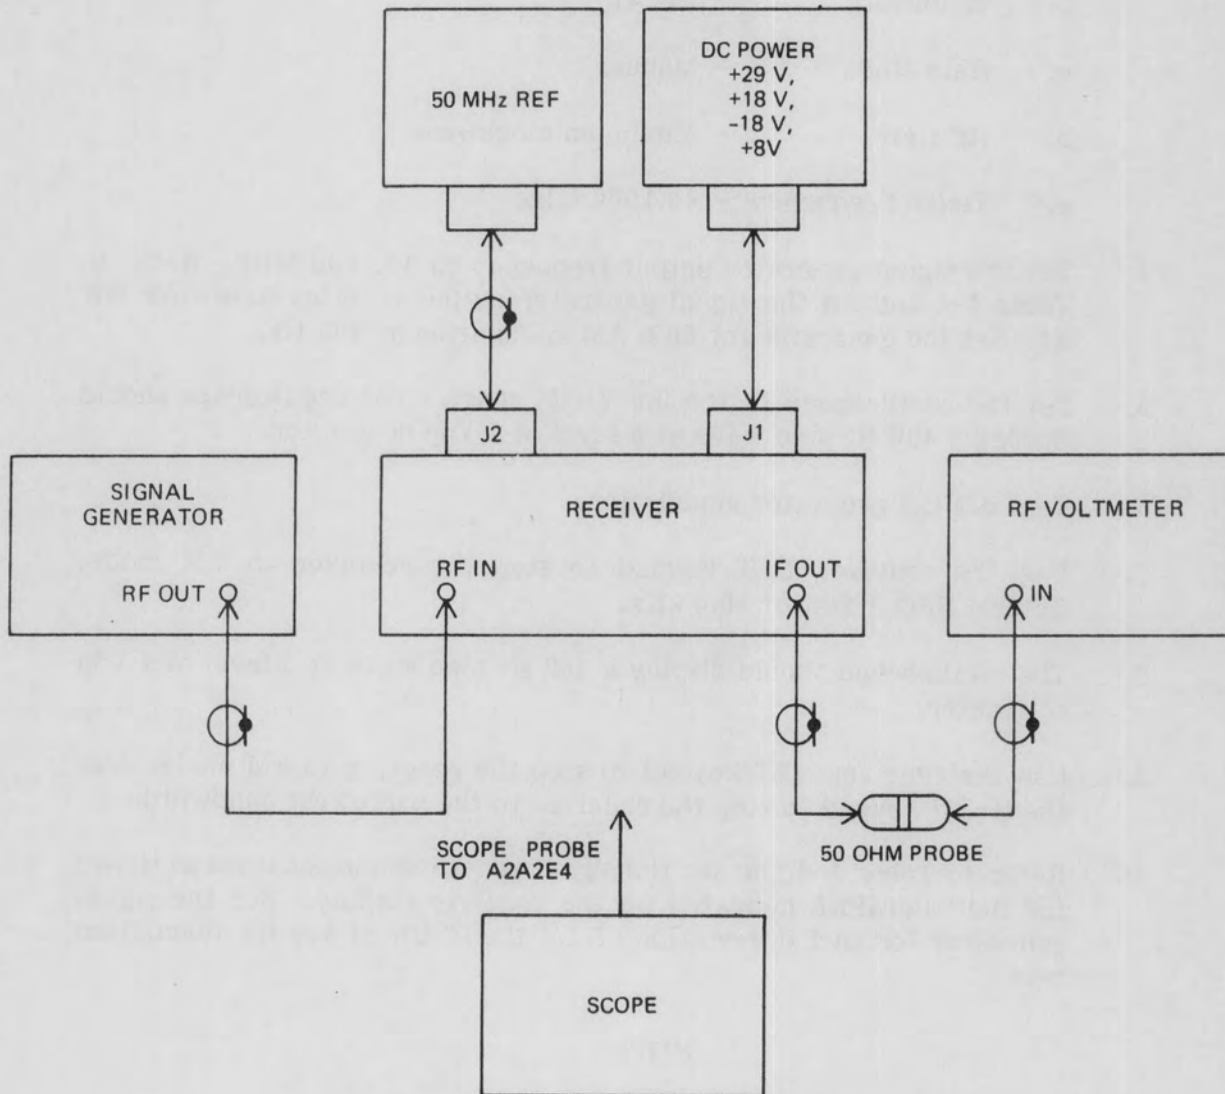

Figure 4-1. IF Gain Test Equipment Setup
1. Connect the receiver as shown in **Figure 4-1**.